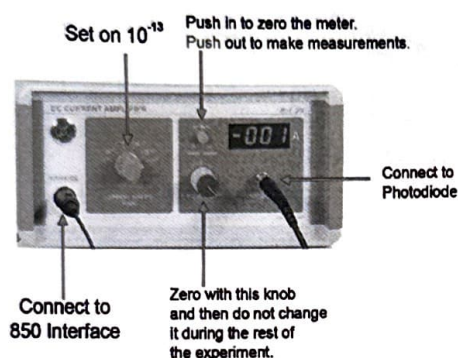

Figure 4: Current Amplifier Settings
5. On the DC Current Amplifier, turn the CURRENT RANGES switch to  $10^{-13}$  A. Press the Calibration button in to zero the meter. Turn the knob until the meter reads 000 A (see Figure 4).